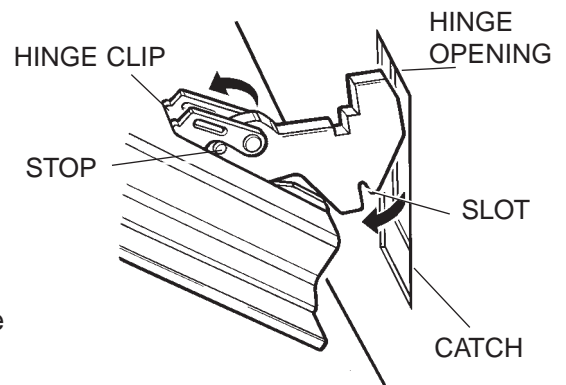

Figure 20 - removing the oven door
2. Raise one hinge clip and rotate it towards you as far as the stop (Figure 20). Repeat the procedure with the second hinge clip on the other side of the door.
Unscrew and remove the diffuser. Unscrew the lamp from the lampholder. Replace lamp and diffuser (Figure 20).